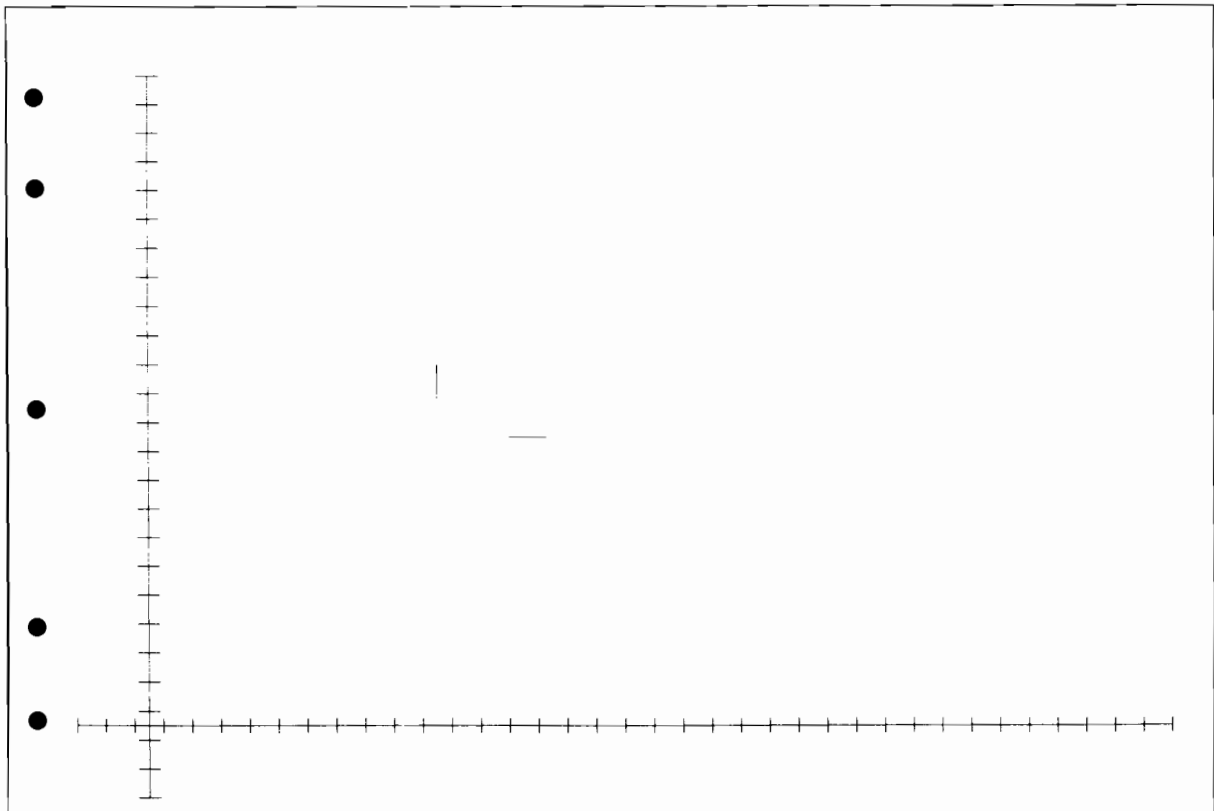

Figure 2-2. 7220C Repeatability and Accuracy Test Program and Plot
- b. Enter the applicable program from either Figure 2-2 or Figure 2-3 into the computer. Formatting of the program to a particular computer is the responsibility of the user.
- d. Using an optical comparator, measure the difference in width between the single line segment and the retraced portion of the line segment. The difference should be within ± 0.1 mm. See Figure 2-2 or 2-3 for the sample plot.
- d. Using a metric scaler, verify that the horizontal line measures 38 cm ± 0.96 mm and that the vertical line measures 25 cm ± 0.7 mm. See Figure 2-2 or 2-3.